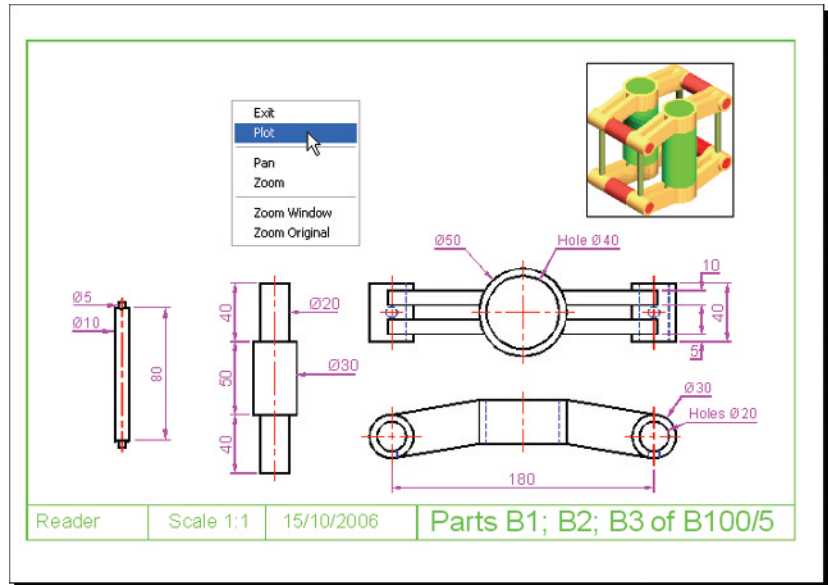

Fig. 19.9 Second example – Printing/Plotting
Second example – Printing/Plotting (Fig. 19.9)
4. If satisfied with the preview (Fig. 19.9), *right-click* and in the menu which appears *click* the name **Plot**. The drawing plots.